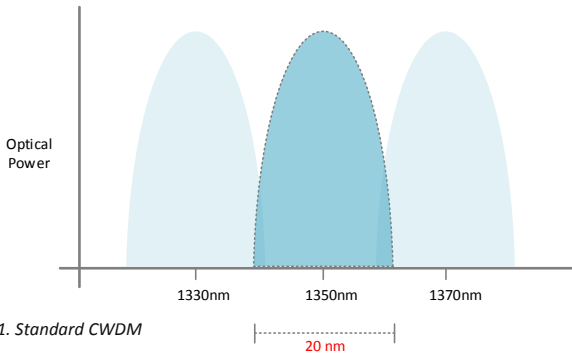

Fig 1. Standard CWDM
**Figure 1.** shows the standardized channel spacing for use with CWDM (ITU-T G.694.2). It allows totally 18 channels between 1270nm and 1610nm with 20 nm spacing. Due to this limitation of channels deployed in one (1) fiber, system integrators must always prioritize the signals in order to fit a single fiber transmission architecture. *Keep in mind that some signals are bi-directional (e.g. ethernet), and will occupy 2 channels in your CWDM multiplexer*